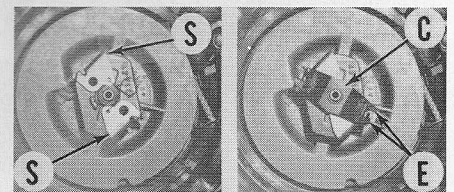

Fig. PR3-21—Views of rewind starter partially assembled. Sharp edges (S) on starter pawls should be on side shown. Ends of friction spring are shown at (E).
Rewind spring should be wound into housing in clockwise direction beginning at outside of spring. The 5/32-inch diameter nylon cord should be 52 inches long when free (not stretched). Preload the rewind spring approximately three turns. Edges (S—Fig. PR3-21) should be sharp enough to catch in starter cup. Ends (E) of friction spring should be around tips of starter pawls and center (C) should be in toward the rewind spring.